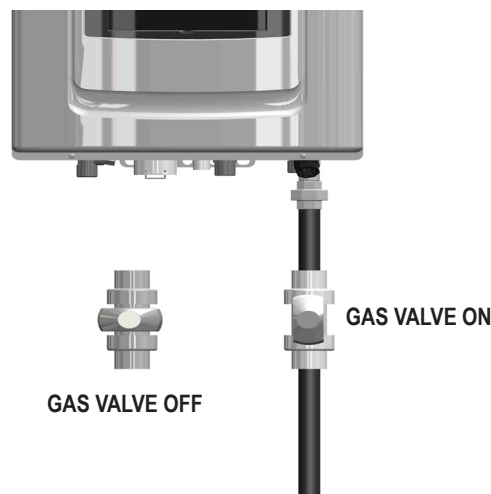

Figure 18 – Gas Line With Shut-Off Valve Detail
4. A manual gas shut-off valve should be installed in the gas supply line close to the water heater. See Figure 18 for detail.